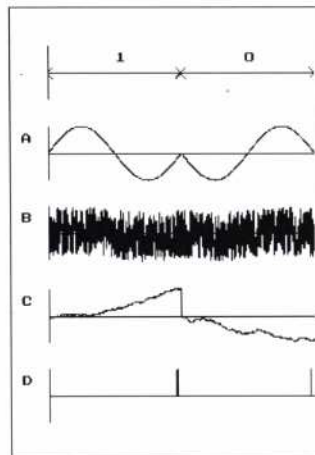

Fig.7b
Sampling the signal this way means that a large part of the received signal is not used. By means of a so-called integrator, it is possible to use the whole signal when taking the decision on which value the received bit has. This is shown in **Fig. 7b**. The received signal (B) is so weak that it is very hard to see what is transmitted. Signal (C) shows the result after integration: a very big improvement!